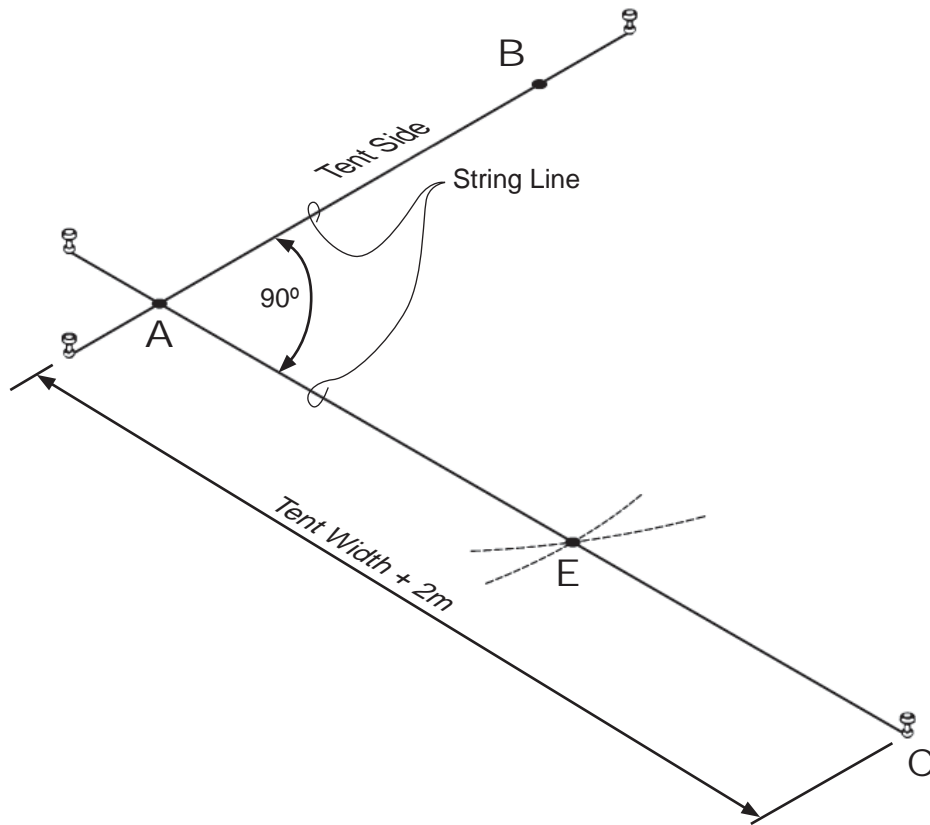

Figure 1.1c
- 1.1.5 Stretch another string line along the tent's front from point A toward point E. This string line will be 90 degrees to string line A-B. Without changing the angle, extend this string line 2m past width of tent to establish point C. Check to make sure the string line from A to C still passes thru the intersection of the two arcs at point E. This line establishes the front of the tent. See Figure 1.1c.